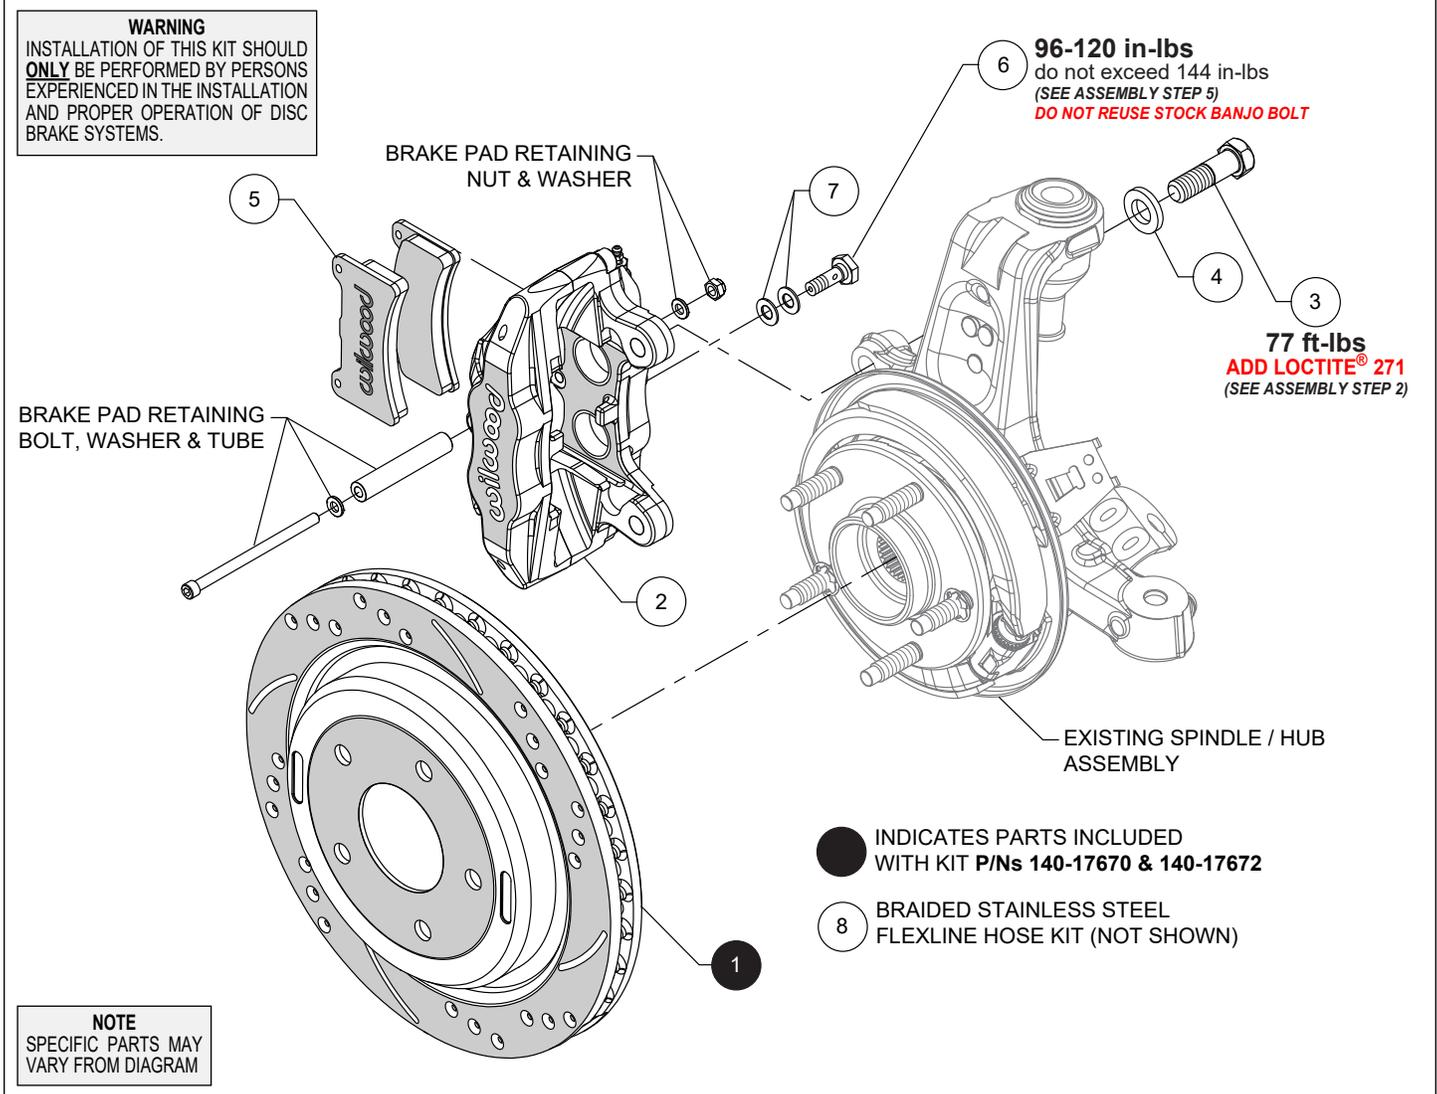

Figure 1. Typical Installation Configuration
NOTE: Numbers in parenthesis refer to the parts list and Figure 1 on the preceding pages.
STEP 2 Mount the caliper (2) onto the OEM caliper mounting bosses of upright using bolts (3) and washers (4), as shown in Figure 1. Apply red Loctite® 271 to bolt threads, and torque to value shown in Figure 1.
STEP 3 Remove the caliper pad retainer bolt, locknut, washers, and tube from the caliper. Insert the brake pads (5) into the caliper, with the friction material facing the rotor, Photo 2. Secure the brake pads in place with the pad retainer bolt, locknut, washers, and tube, Photo 3. The locknut should be snug without play in the bolt or tube. Be cautious not to over tighten.
STEP 5 Attach brake line to caliper. Install Wilwood's braided stainless steel flexline hose kit (8) that is included with this kit. See below for more info on flexline kits.
Route new flexline following OEM brake hose routing and connect to OEM hardline. Secure to OEM chassis brake bracket using supplied retainer clip. Connect to caliper using banjo bolt (6) and crush washers (7), Figure 1. Do not use lubricant or thread sealant on banjo bolt. Torque to minimum value shown in Figure 1. Check for leakage, increasing torque only to stop leakage without exceeding maximum specification. Replace crush washers and banjo bolt whenever reassembly is required. **Ensure hoses are routed to prevent contact with moving suspension, brake or wheel components.**